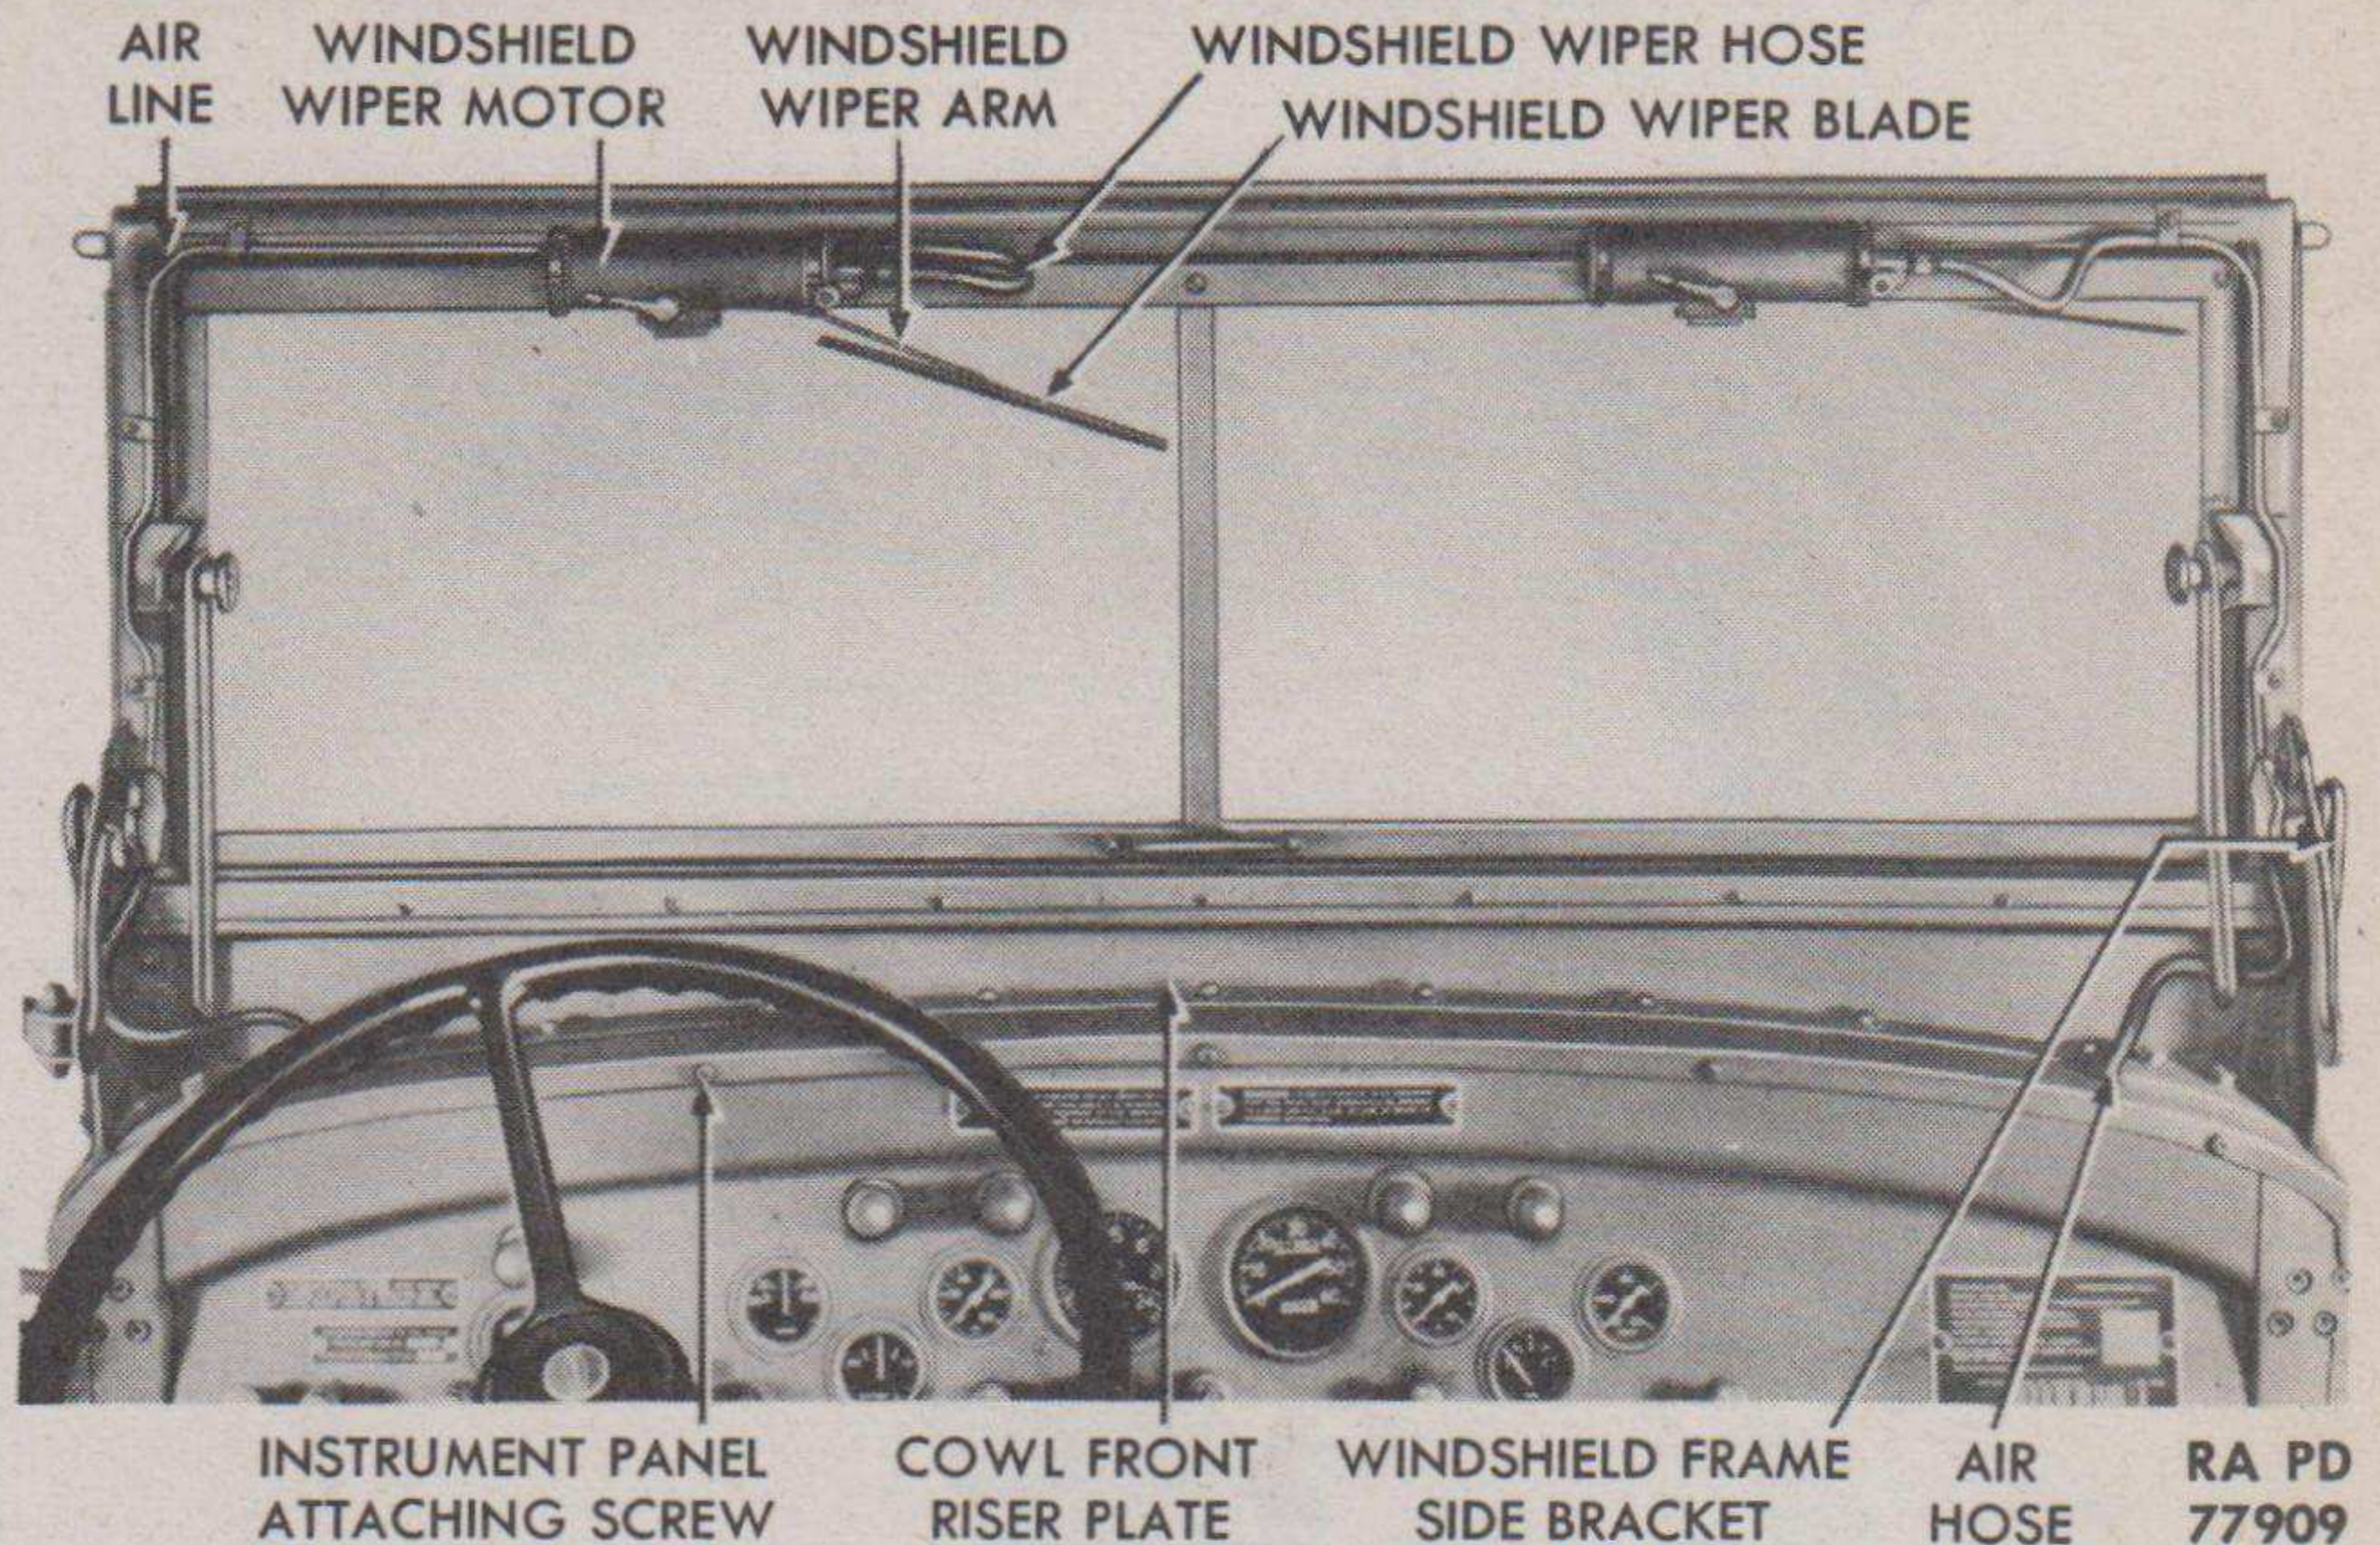

Figure 80 – Windshield Installed
(1) **DISASSEMBLY** (fig. 80). Remove inner quadrant adjusting screws. Lift windshield to horizontal position and slide it out of hinge at top of outer frame assembly. Remove screws attaching top frame strip of windshield assembly to center and outer frame strips. Lift out windshield glass.
(3) **ASSEMBLY** (fig. 80). Insert glass into recesses of center, bottom, and outer frame strips. Position top strip and secure with